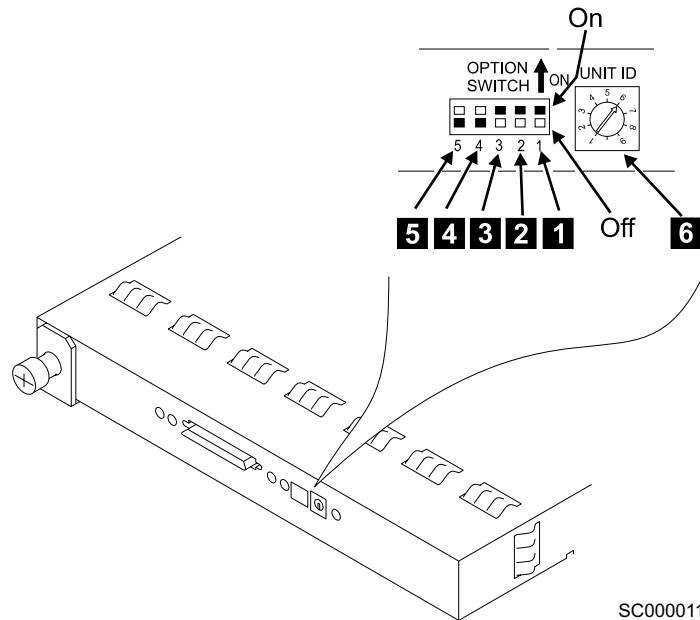
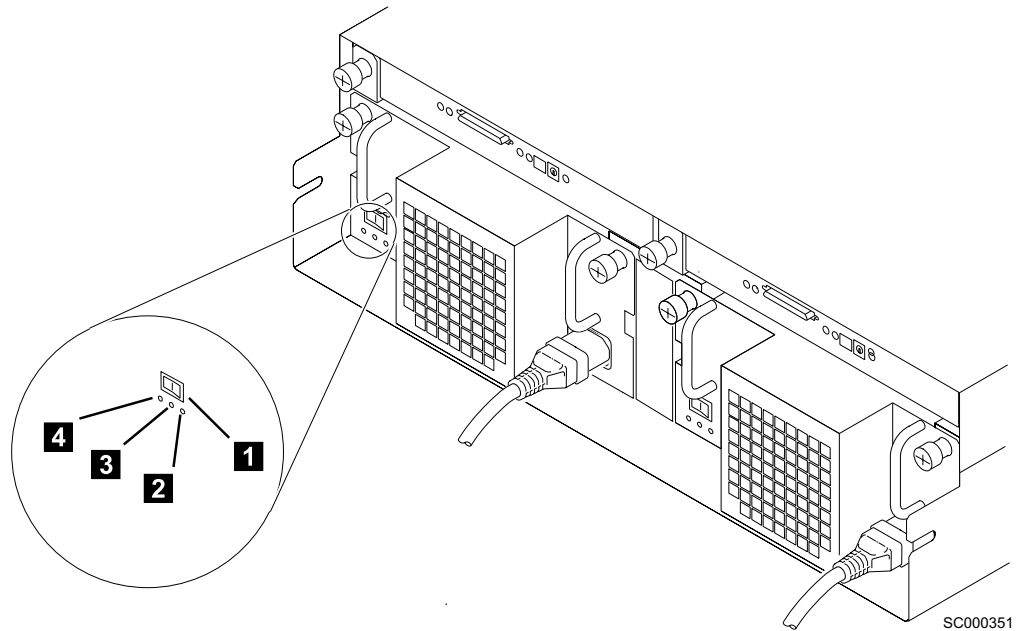

Figure 34. Setting the option switches
Figure 42. Checking the power supply switch and lights
4. Figure 34 shows the option switches. When the drive autostart switch-1 **1** is set to off, and the drive autostart switch-2 **2** is set to on, the disk drive motors do not start until you issue a **START MOTOR** command. The timing sequence of disk motor startup is under the control of the host system software.
2. Ensure that the dc on/standby switch **1** is set to standby. See Figure 42.
7. Switch on the dc on/standby switch **1** on each power supply. If option switch **5** (see Figure 34 on page 20) is on, the green DC PWR light **3** comes on and the check light **2** becomes off. See Figure 42. If option switch **5** (see Figure 34 on page 20) is off, the green DC PWR light **3** (see Figure 42) stays off and the check light **2** stays on. It will come on when the 2104 Model DS4 is connected to the host system.